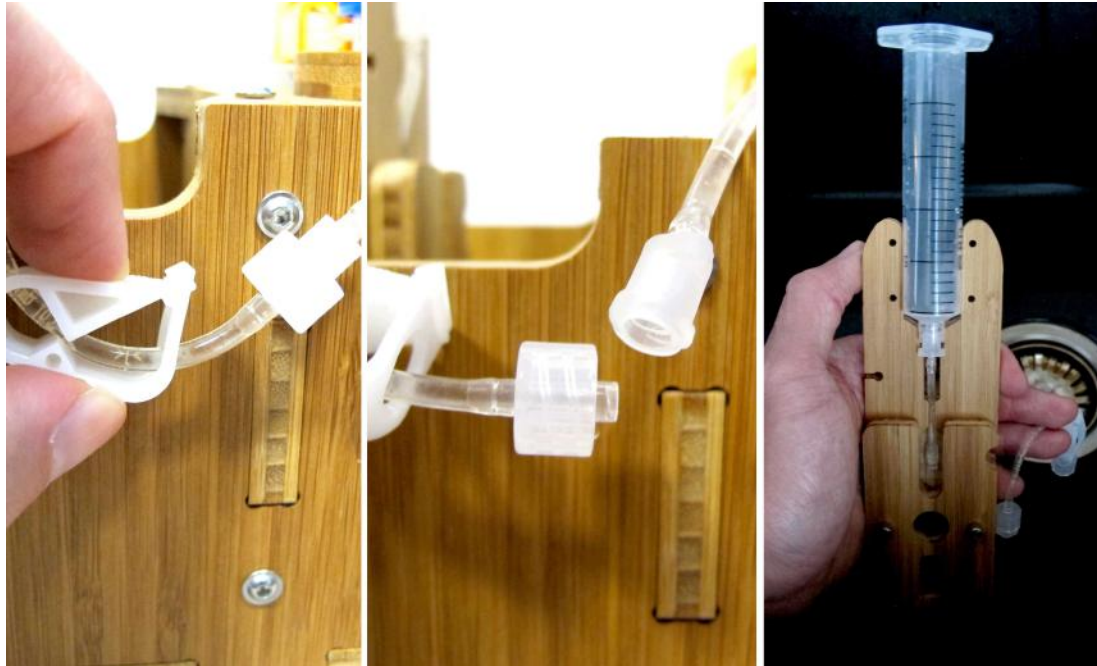

Figure 7: How to remove the part of the fluidic system containing the Flow Cell to fill the syringe with water
2. Fill the sample in the syringe. For this you can just remove the full sample holder and fill it on top of a sink (to not risk spills on top of the PlanktoScope; Fig.7)